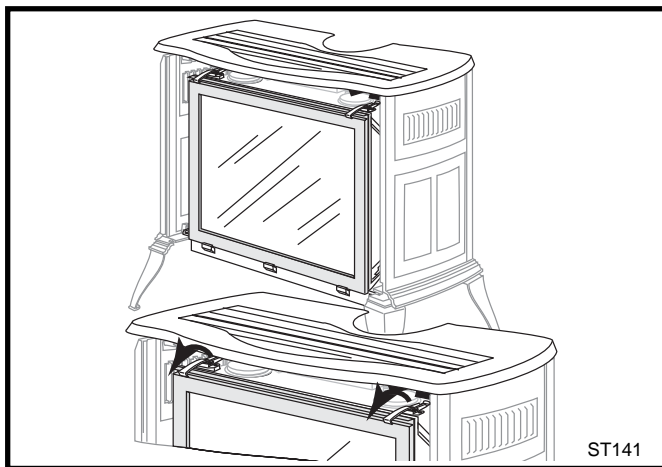

Fig. 45 Release the latches to remove the glass frame.
2. Undo the right and left latches at the top of the glass frame. (Page 22, Fig. 45)